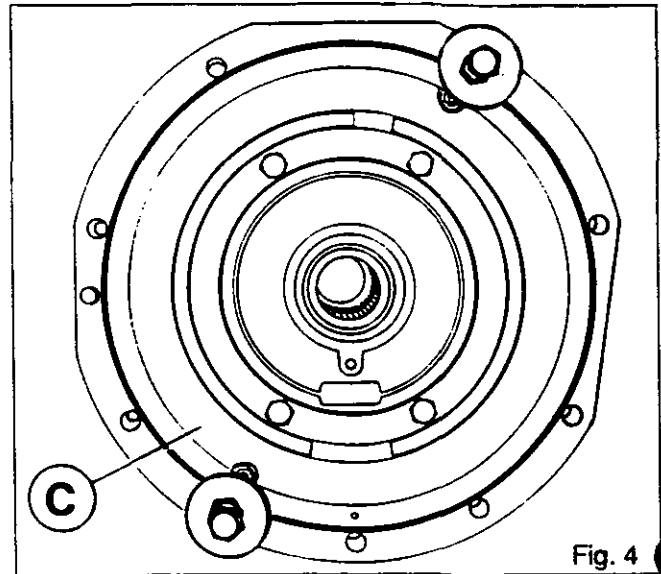
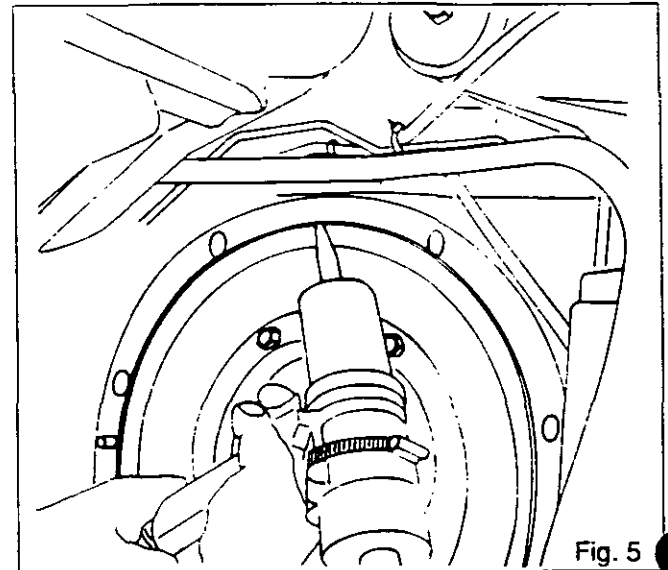

Fig. 4
Fig. 5
- the brake disc (19)
- the planetary shaft (23)
- the locating dowel (27)
**Note :** To prevent the brake piston (C) from coming out of the housing, it is recommended that two wide washers and two bolts be fitted diametrically opposite each other to hold it in place. (Fig.4)
17. Remove the brake plate (18).
19. Apply a bead of oil resistant (Silicomet type) silicone to the inner edge of the centre housing (Fig.5).